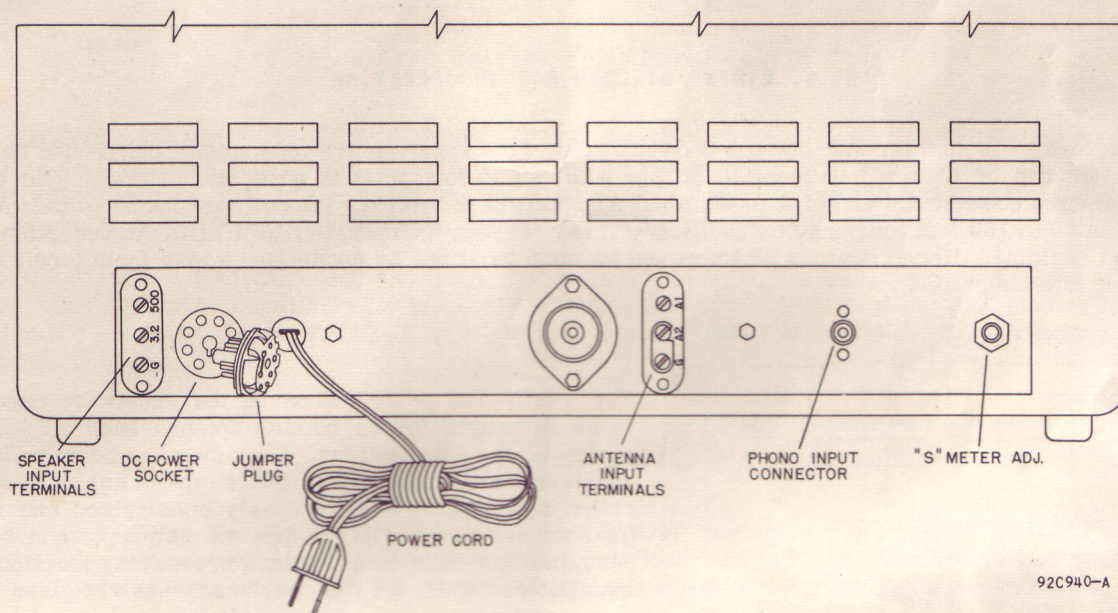

FIG. 2. REAR VIEW
**NOTE:** The receiver will not operate from an AC source unless the JUMPER PLUG is inserted in the DC POWER SOCKET. See Fig. 2.
**REMOTE RECEIVE / STANDBY SWITCH CONNECTION** - The receiver may be disabled remotely by connecting a remote spst switch between pins 1 and 4 of the JUMPER PLUG (see Fig. 2). To operate the receiver remotely, set the RECEIVE/STANDBY switch, located on the front panel of the receiver, to the STANDBY position. The receiver can then be placed in RECEIVE or STANDBY operation with the remote switch.
4. The electrical adjustment control for the "S" meter is located on the rear apron of the chassis (see Fig. 2). Slowly rotate this control until the "S" meter pointer indicates zero.